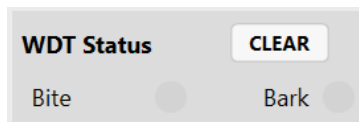

Figure 34: Watchdog Status Monitor
36. Figure 34 shows the watchdog status monitor.